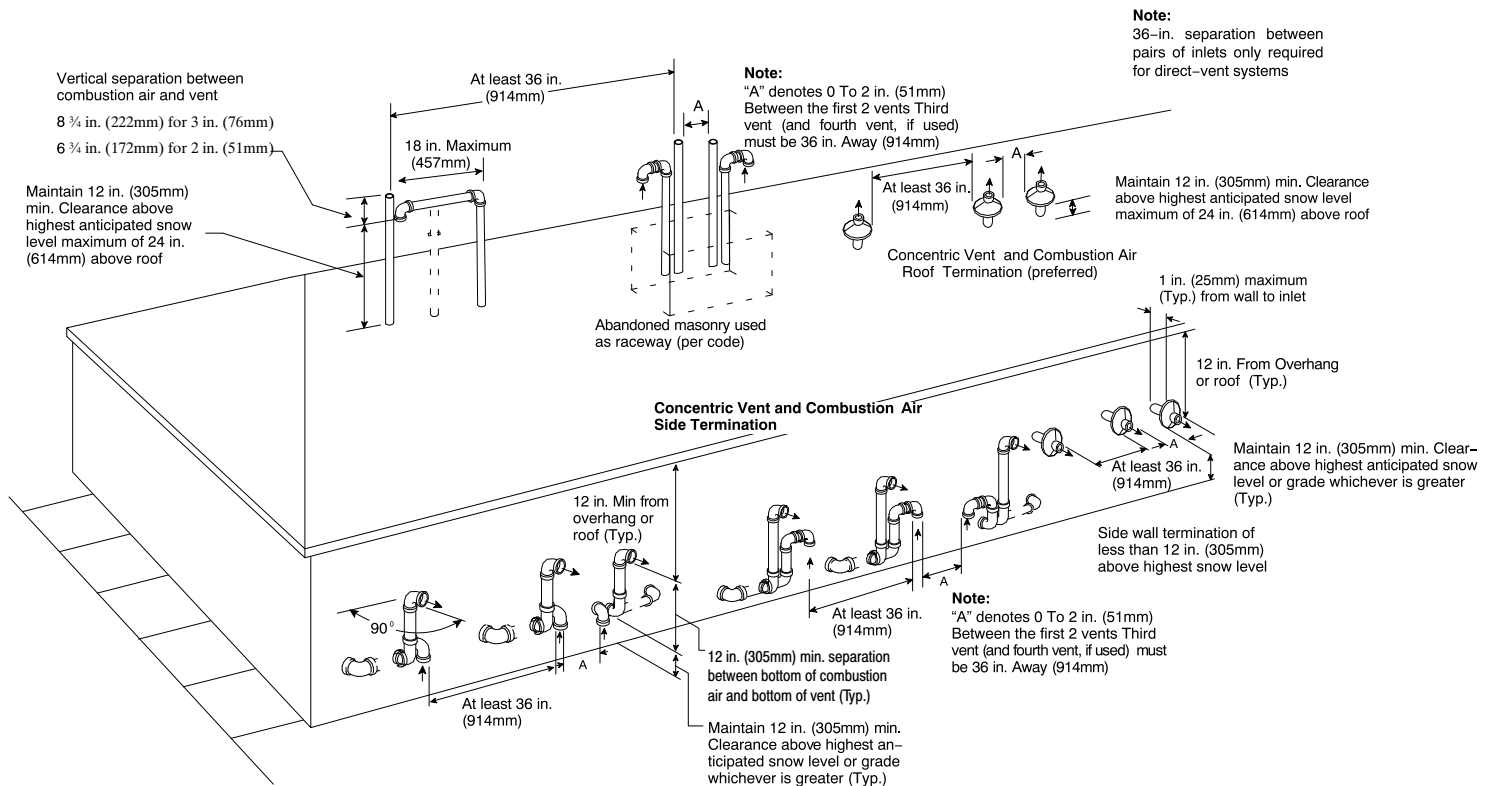
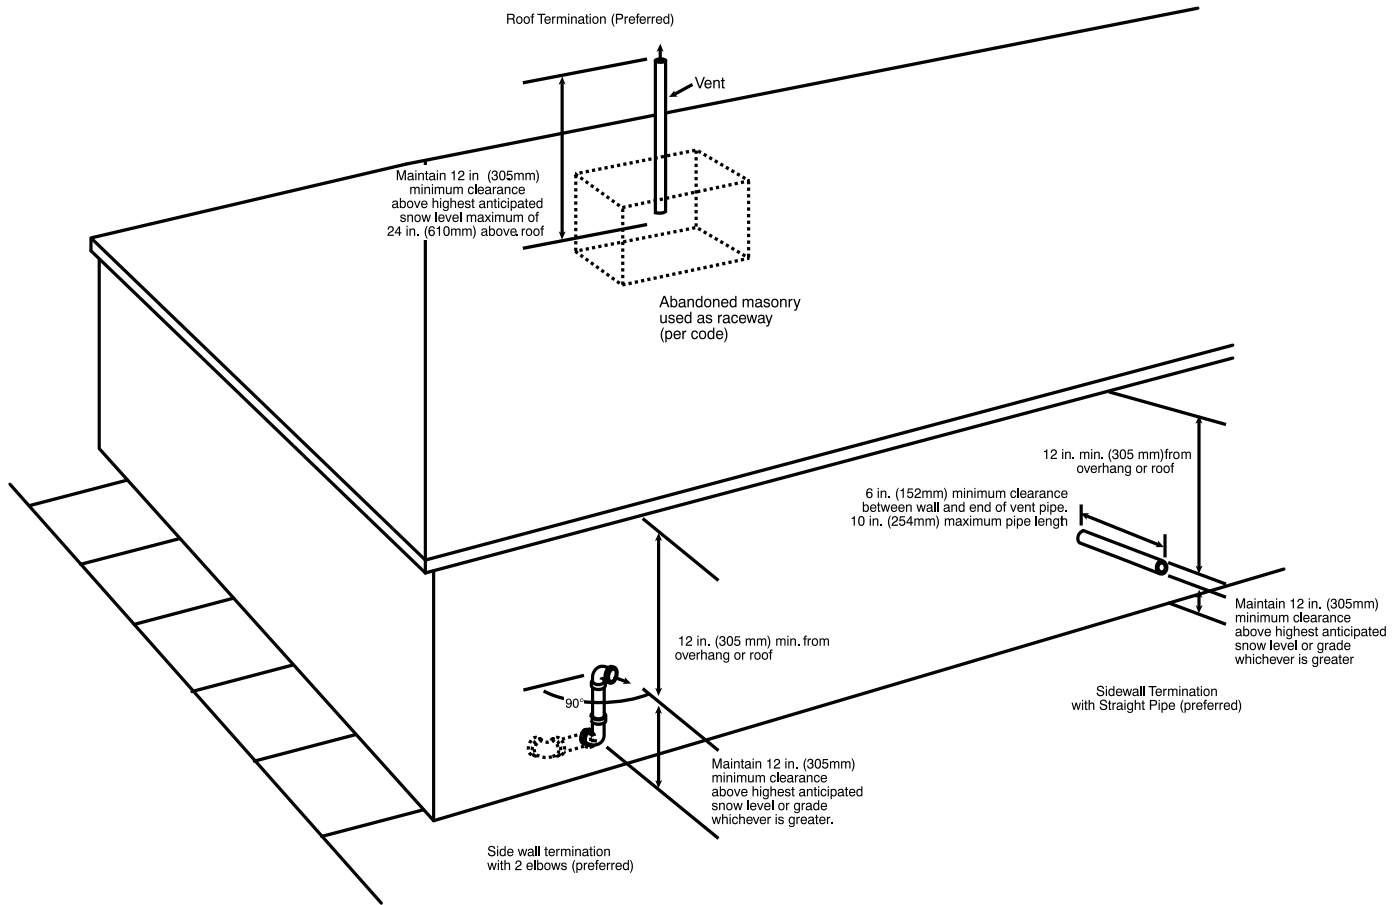
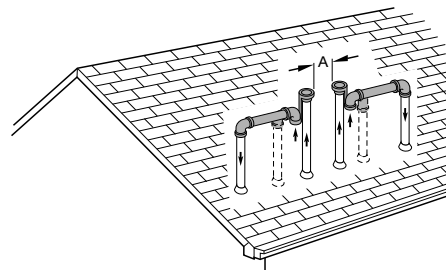
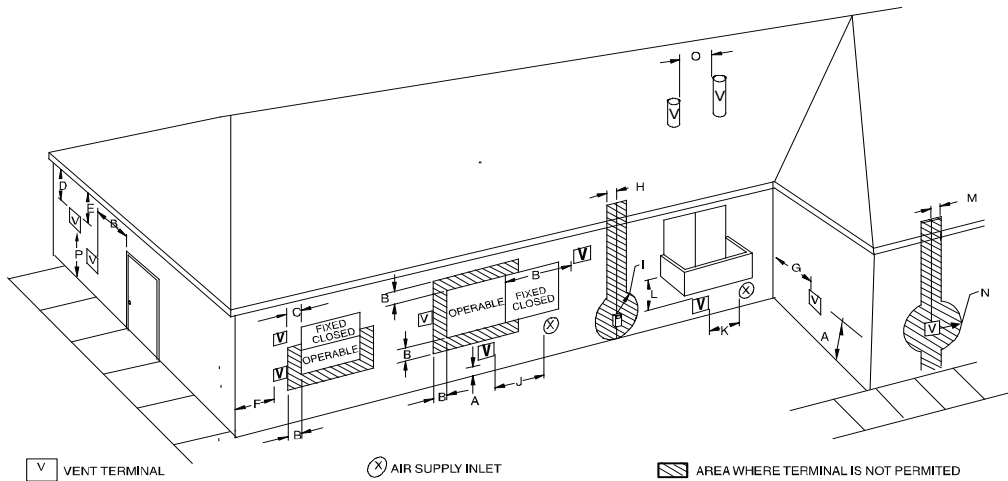

Fig. 38 – Combustion Air and Vent Pipe Termination for Direct Vent (2-Pipe) System
Fig. 39 – Vent Pipe Termination for Non-Direct Vent and Ventilating Combustion Air System
Fig. 41 – Pipe Vent and Combustion
Fig. 43 – Ventilated Combustion Air and Non-Direct Vent Termination Clearance
An abandoned masonry chimney may be used as a raceway for properly insulated and supported combustion-air (when applicable) and vent pipes. Each furnace must have its own set of combustion-air and vent pipes and be terminated individually, as shown in Fig. 38 for Direct Vent (2-Pipe) system or Fig. 39 for ventilated combustion air option.
In a ventilated combustion air option, the vent terminates and discharges the flue products directly to the outdoors similar to a direct vent system. See Fig. 43 for references to clearances required by National code authorities.
For vent termination clearance, references to National codes are shown in Fig. 42 for Direct Vent/2-Pipe system and Fig. 43 for Ventilated Combustion Air system. For exterior termination arrangements, refer to Fig. 38 for Direct Vent/2-Pipe system and Fig. 39 for Ventilated Combustion Air system. Contact Local code authorities for other requirements to and/or exemptions from the National codes shown in the figures.
1. Comply with all clearance requirements stated in Fig. 42 or Fig. 43 per application.
Direct vent (2-pipe) vent and combustion air pipes must terminate outside the structure. See Fig. 39 for references to vent clearances required by National Code Authorities. Allowable vent and combustion air terminations are shown in Fig. 38.
The vent pipe for a Ventilated Combustion Air System must terminate outdoors. See Fig. 42 For references to vent clearances required by National code authorities. Allowable vent terminations are shown in Fig. 39. The combustion air pipe terminates in a well-ventilated attic or crawl space. Follow the clearances as shown in Fig. 41.